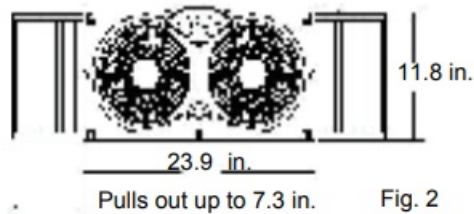

Fig. 2
- This window fan has been designed to fit double-hung, slider, and casement windows with minimum openings of 24.4 in. wide and 13 in. high. (Fig. 2)